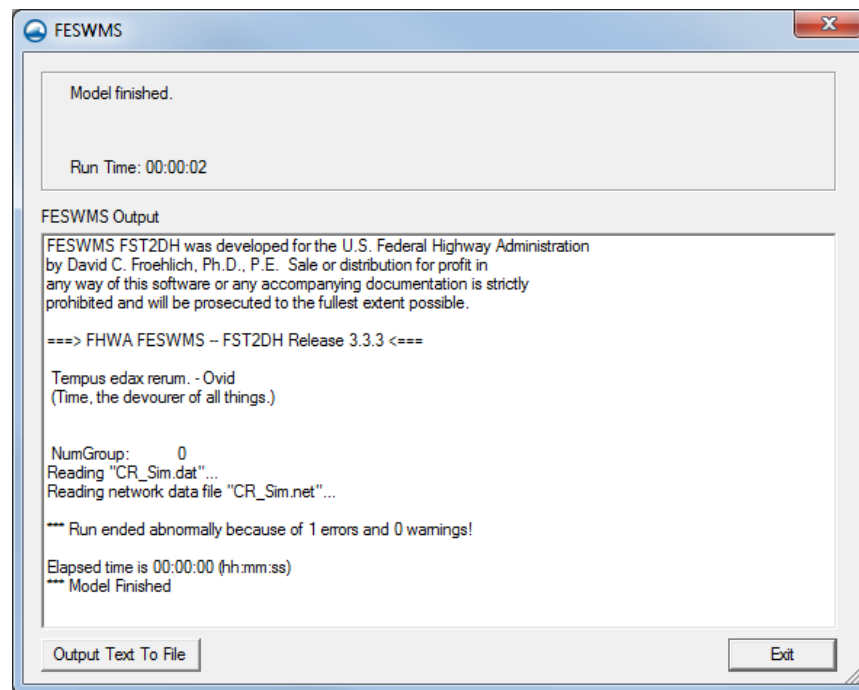

Figure 7 Output from running CR\_Sim.fpr
*FST2DH* will run iteration 1 and diverge. Near the bottom of the *FESWMS Output* section in the *FESWMS* dialog is the text "\*\*\*Run ended abnormally because of 1 errors and 0 warnings!" as shown in Figure 7. This is how FST2DH declares that it has not successfully converged.